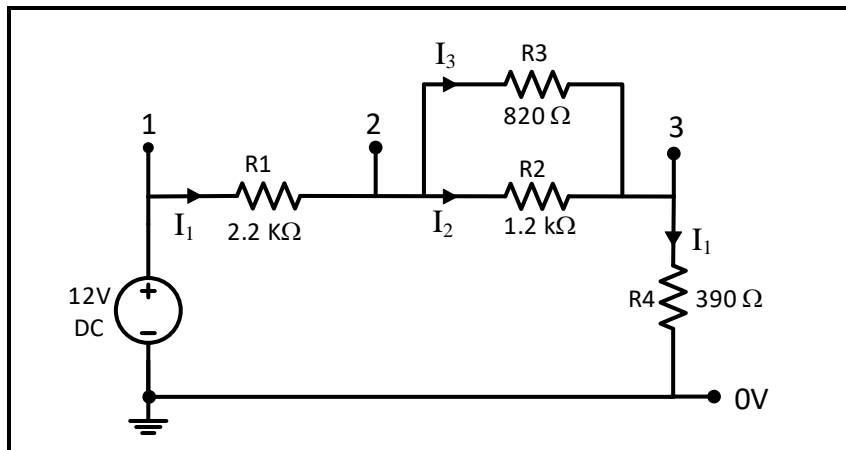

Figure 3.9
1. Simulate the circuit of Figure 3.9 using PSPICE to find the voltage across and the current through each resistor.
1. Connect the circuit of Figure 3.9, set V_{in} to 12 V.
4. Reinsert R_1 back in the circuit, replace R_2 by short circuit, repeat same measurements in step (3), and record results in Table 3.6.
5. Return the circuit to the original state of figure 3.9, consider now **removing R_1** . Measure the resulting voltages V_{1-2} , V_{2-3} , and V_{3-0} , and current I_1 if this were to occur. Record results in Table 3.7.
6. Reinsert R_1 back in the circuit, remove R_2 , repeat same measurements in step (5), and record results in Table 3.7.